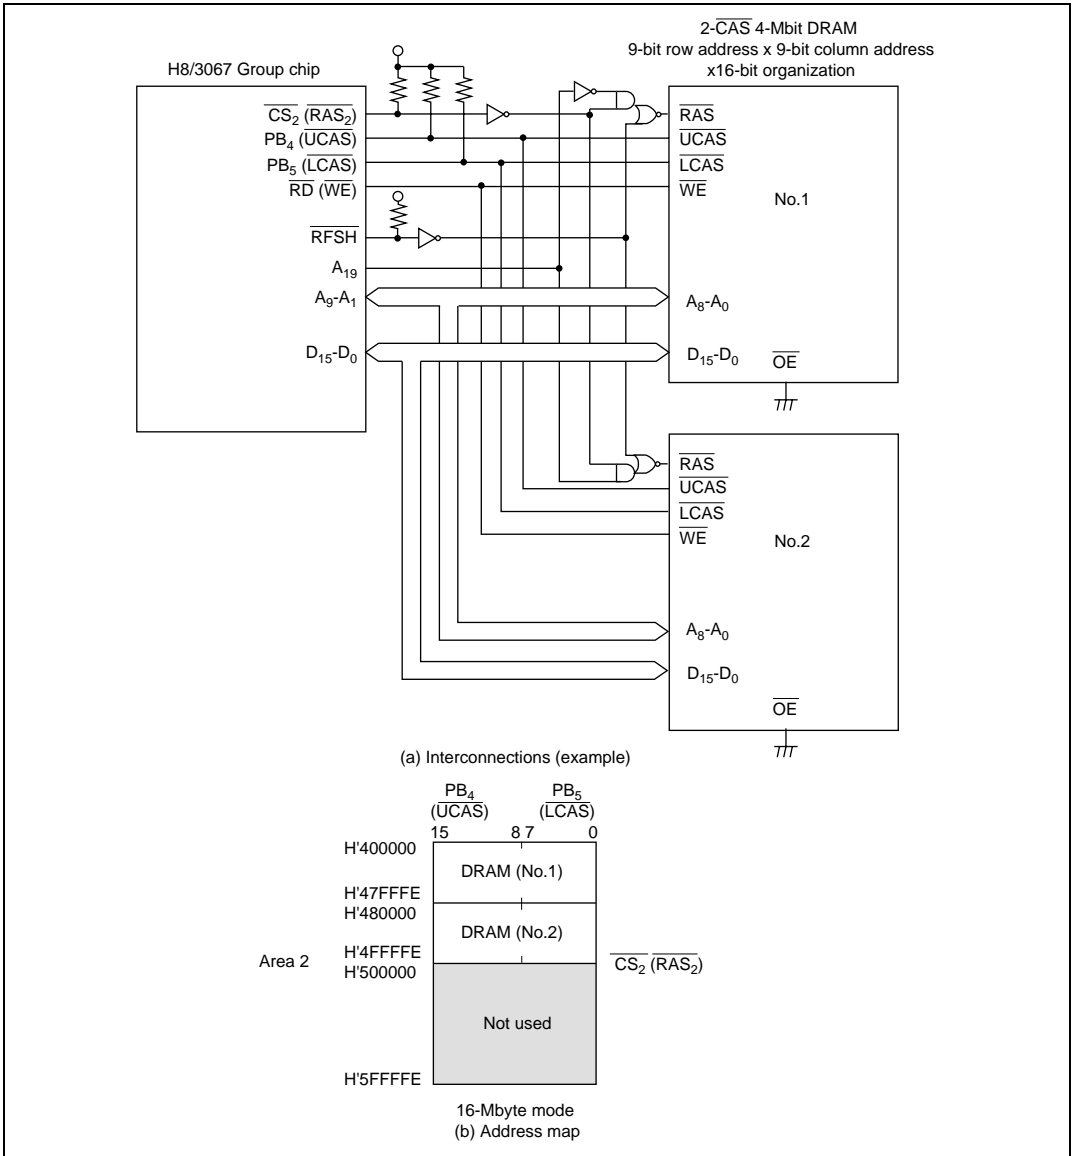

Figure 6.33 Interconnections and Address Map for 2-CAS 4-Mbit DRAMs with x16-Bit Organization
- Figure 6.33 shows typical interconnections when using two 4-Mbit DRAMs, and the corresponding address map. The DRAMs used in this example are of the 9-bit row address \times 10-bit column address type. In this example, upper address decoding allows multiple DRAMs to be connected to a single area. The $\overline{\text{RFSH}}$ pin is used in this case, since both DRAMs must be refreshed simultaneously. However, note that RAS down mode cannot be used in this interconnection example.